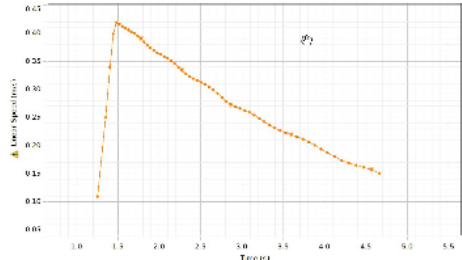

Figure 5: Frictional
- Your Linear Speed vs Time graph should look like Figure 5. Answer Question 1 on the Conclusions page.